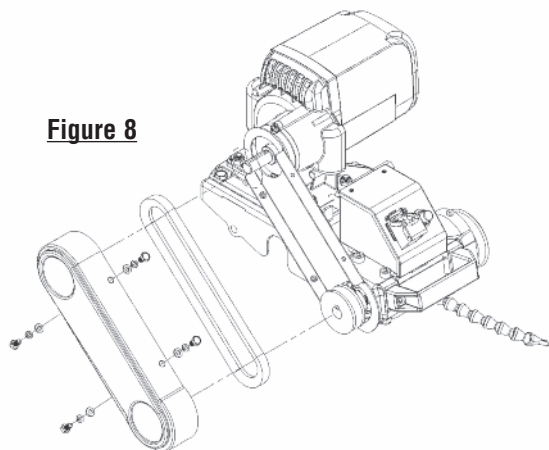

Figure 8
2. Loosen and remove the four bolts located above and below the belt guard and then remove the belt guard. See *Figure 8*